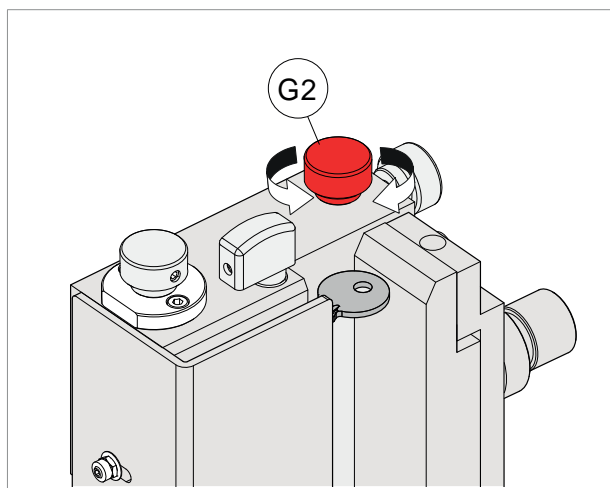

Fig. 114
- 2) Adjust the knob (G3) until the key enters and slides down the loader without too much play (Fig. 114).
Use the knob (G2) (Fig. 114) to increase or decrease size until the right dimension is found. When adjustments have been made, tighten the knob (G6).